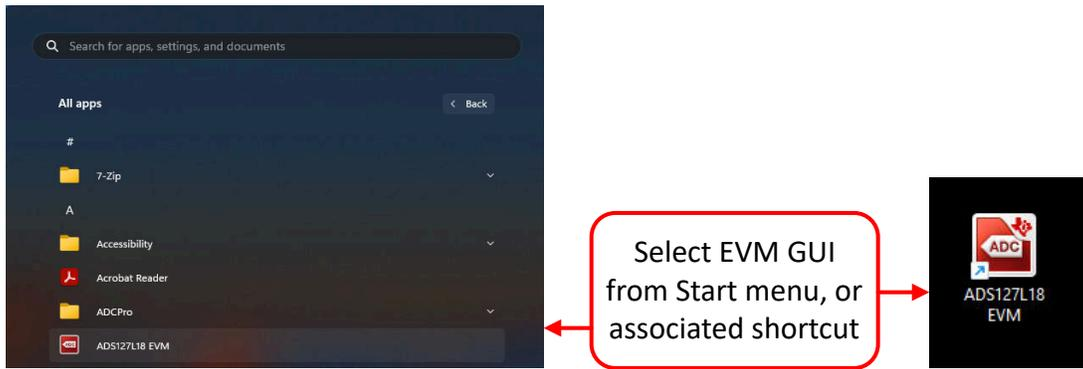

Figure 4-2. Launch the ADS127L18EVM GUI Software
4. Start the software GUI as shown in Figure 4-2. Notice that the LEDs blink slowly when the FPGA firmware is loaded on the PHI. This loading takes a few seconds.